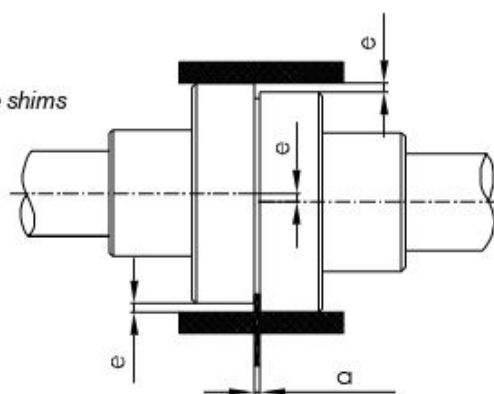

Fig. 3 Aligning a flexible coupling
- To control parallel sliding error, straight edged steel ruler is pressed down on one half of the coupling in parallel to the axis. It is checked against the other half. Straight edge must touch to the both half couplings completely same at all points in each vertical and horizontal planes (**Fig.3**).